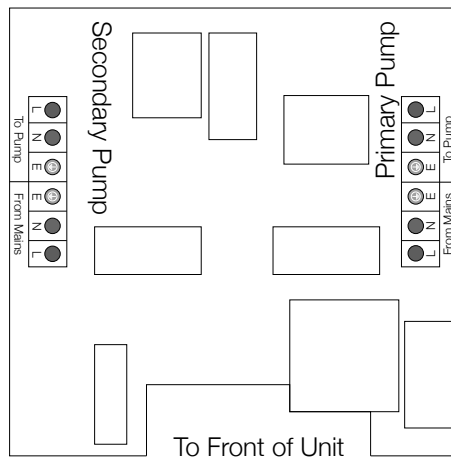

Figure 2. Wiring the lower circuit board - Hi-PowerMaxx2-XL
6. Connect the supply to the "From Mains" and the corresponding pump to the "To Pump" (figure 2).